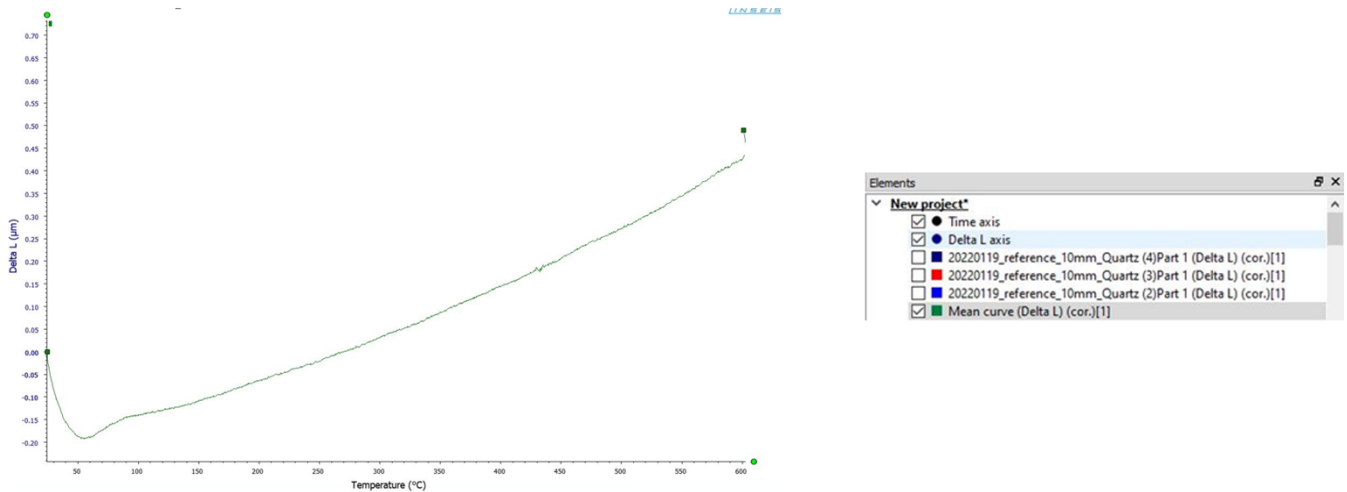

Figure 35. Mean curve.
6. Select all the correction curves and get the mean curve (see Figure 35) for those highlighted by using the icon  in the tool bar which evaluates the mean curve of a couple of curves.